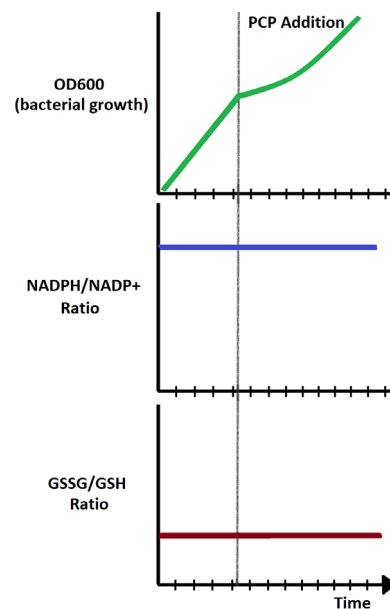

Figure 8y. Data for Question 6.
6. Pretend you added more glucose to replenish the NADPH in your bacteria rather than performing any genetic modifications. You get the experimental data in Figure 8y. Explain the new data.